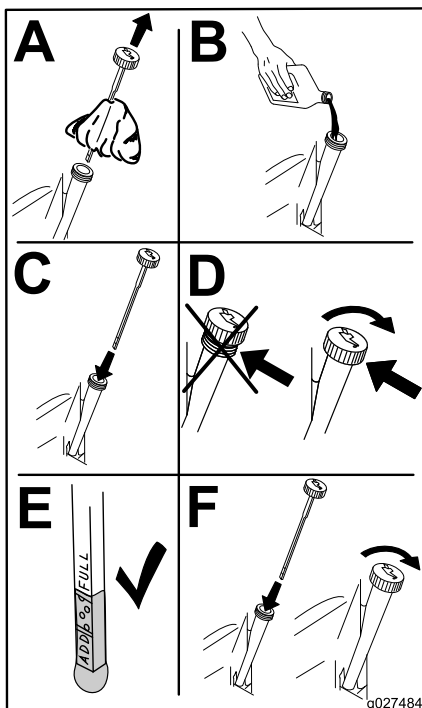

Figure 38
5. Slowly pour approximately 80% of the specified oil into the filler tube and slowly add the additional oil to bring it to the **Full** mark (Figure 38).